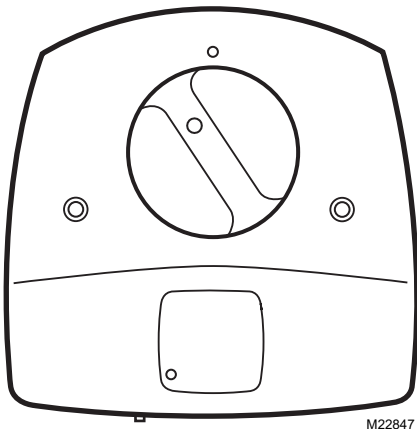
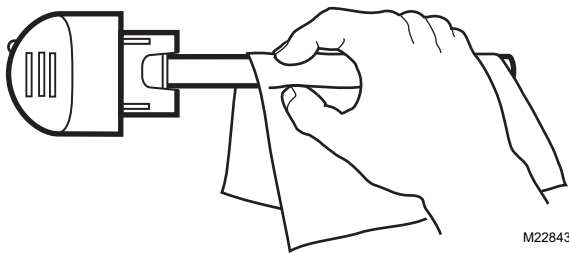

Fig. 4. Insert lamp handle into base unit.
Fig. 5. Use cloth to wipe fingerprints from glass.
11. Insert the lamp handle into the base unit with the lamp light indicator at the eleven o'clock position (left of the raised button on the unit cover). See Fig. 4. If you touch the lamp glass with your hands, use a cloth to wipe fingerprints from the glass. See Fig. 5.
7. Insert the lamp handle into the base with the lamp light indicator at the eleven o'clock position. Continue pushing and gently rotating counterclockwise until the lamp handle inserts fully into the base. See Fig. 4.